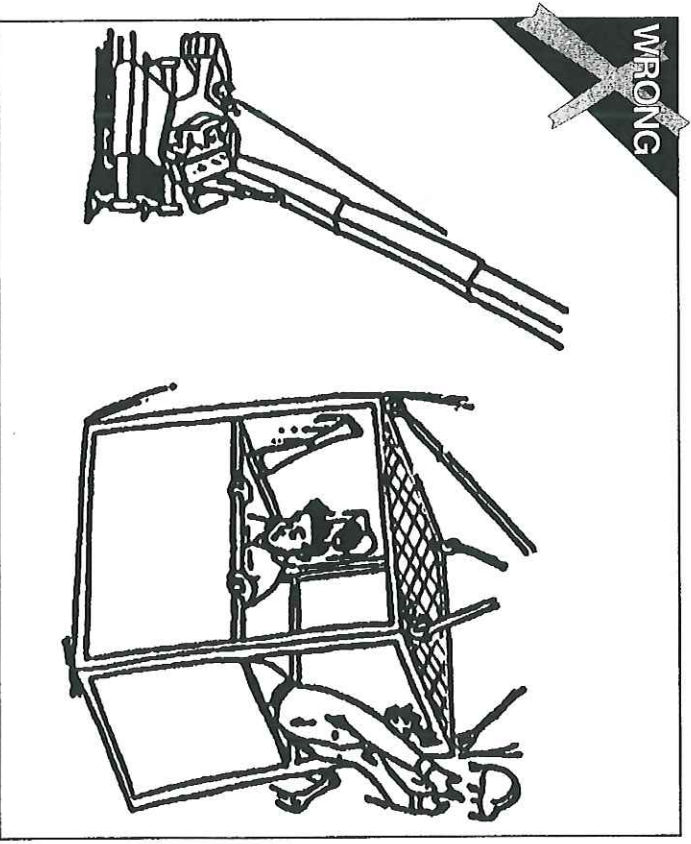

FIG. 44
- Load lines shall be capable of supporting, without failure, at least seven (7) times the maximum intended load. Rotation resistant rope, if used, shall have at least ten (10) times the capacity for the maximum intended load.
- The load line hoist drum shall have controlled load lowering. Automatic brake shall apply in neutral position. **Free fall is prohibited.** (FIG. 44)